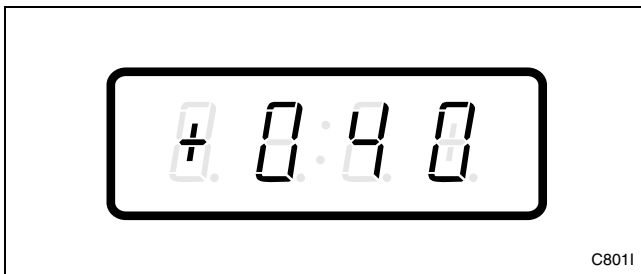

Figure 151
3. Press the DELICATES (+) or the COLD (-) keypad to scroll through the programmable options until “+040” appears in the VFD. Refer to *Figure 151*.